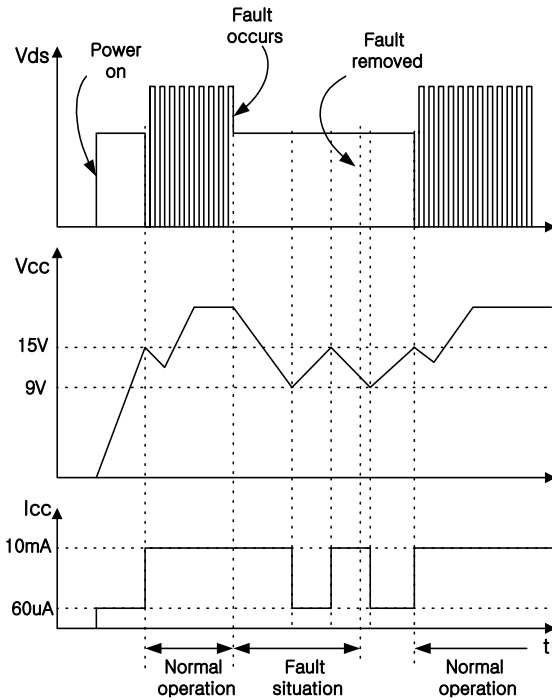

Figure 3. Auto restart operation after protection
**3. Protection Circuit :** Besides pulse-by-pulse current limit, the FS6X1220R has 3 self protection functions; over load protection (OLP), over voltage protection (OVP) and thermal shutdown (TSD). Because these protection circuits are fully integrated into the IC without external components, the reliability can be improved. In the event of these fault conditions, FS6X1220R enters into auto-restart operation. Once the fault condition occurs, switching operation is terminated and MOSFET remains off, which causes Vcc to be reduced. When Vcc reaches 9V, the protection is reset and the supply current reduces to 60uA. Then, Vcc begin to increase with the current provided through the start-up resistor. When Vcc reaches 15V, FS6X1220R resumes its normal operation if the fault condition is removed. In this manner, the auto-restart alternately enables and disables the switching of the power MOSFET until the fault condition is eliminated as illustrated in figure 3.